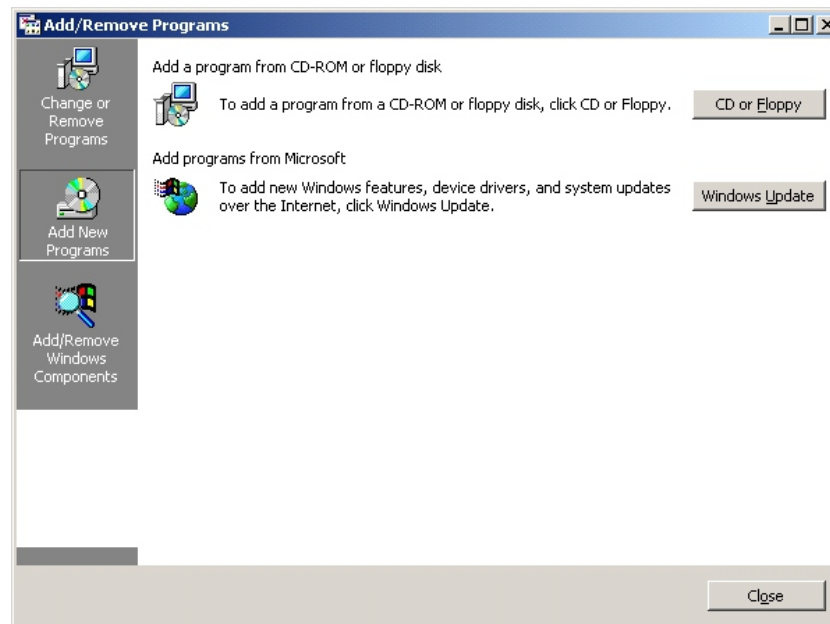

Figure B-2.3
3. Select **Add New Programs** (see figure B-2.3).